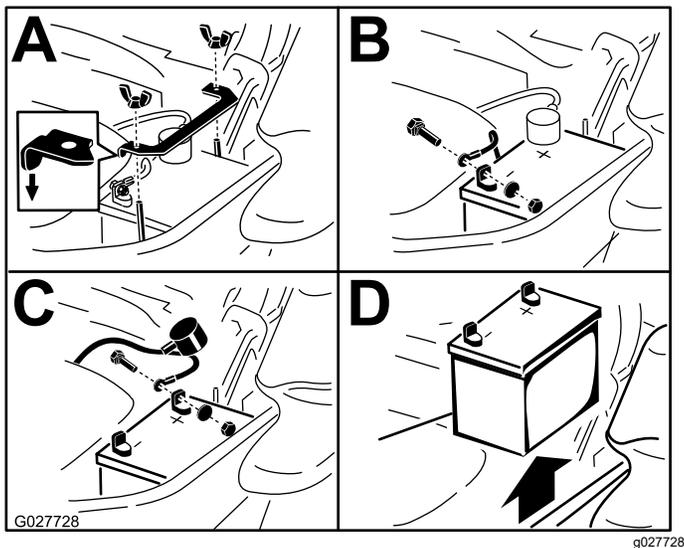

Figure 59
3. Remove the battery as shown in Figure 59.